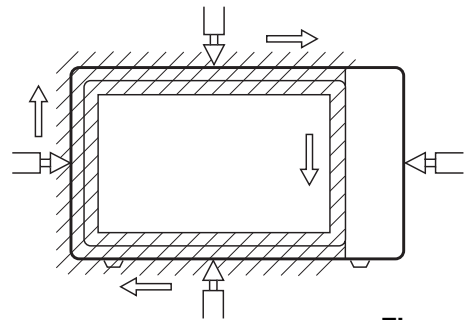

Figure 7
- (1) Pour $275 \pm 15\text{cc}$ of $20 \pm 5^\circ\text{C}$ water in a beaker which is graduated to 600 cc, and place the beaker in the center of the oven.
- (2) Set the energy leakage monitor to 2,450 MHz and use it following the manufacturer's recommended test procedure to assure correct result.
- (3) When measuring the leakage, always use the 2 inch (5cm) spacer supplied with the probe.
- (4) Operate the oven at its maximum output.
- (5) Measure the microwave radiation using and electromagnetic radiation monitor by holding the probe perpendicular to the surface being measured. (See Figure 7)